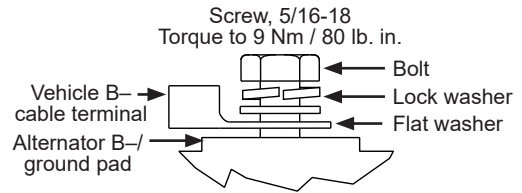

Figure 5: B- Terminal Hardware Stacking Order
- Connect vehicle B- cable to alternator B- terminal (see Figure 3 for terminal location). Install hardware on B- terminal in stacking order shown in Figure 5. Torque to 9 Nm / 80 lb. in.